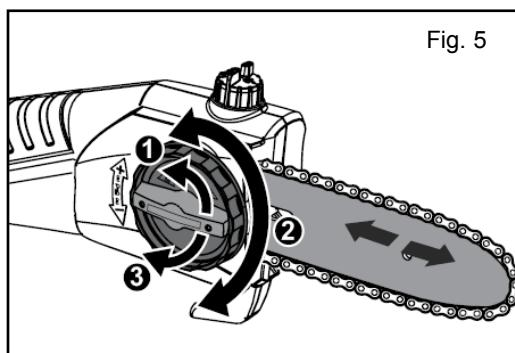

Fig. 5
- Screw the lock knob (Fig. 5 ①) out far enough to allow rotation of the chain tensioner (Fig. 5 ②).
- Tighten the lock knob again(Fig.5 ③).